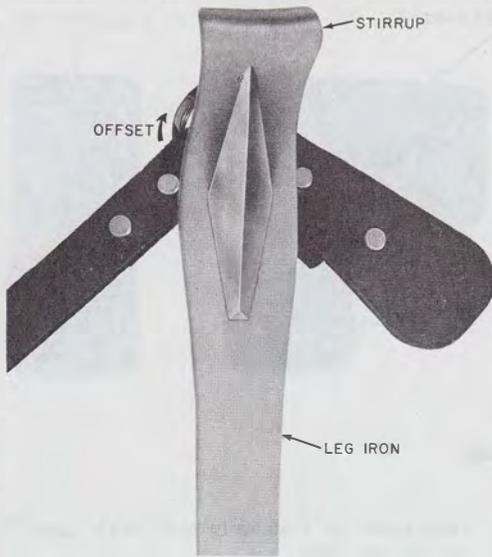

Fig. 2—Stirrup Offset "Right"
**2.05** F climbers have offset stirrups, therefore, they are made for the left or right foot and are marked "L" or "R" just below the ring loop at the end of the stirrup. Some older climbers may not have been marked. Climbers can be identified as left or right by holding the climber with the gaff toward you and pointing up and noting the direction the stirrup is offset. If the offset is to the right as shown in Fig. 2, it is a